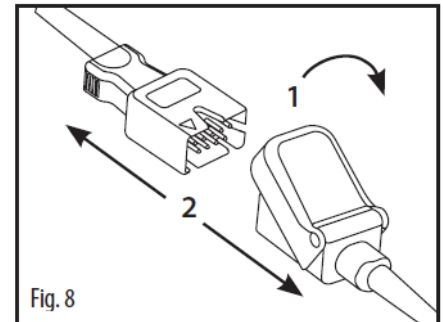

Fig. 30 Disconnecting the LNCS Sensor from the LNC Patient Cable
See Fig. 8 in Fig. 30: Lift the protective cover to gain access to the sensor connector (1). Pull firmly on the sensor connector to remove from the patient cable (2).